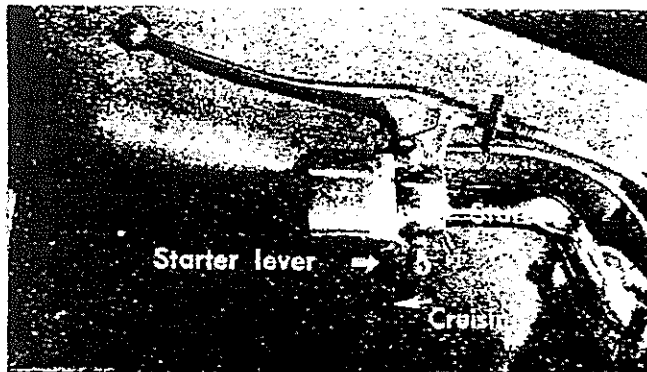

Fig. 2
- (2) Set the starter lever to starting position as shown in Fig. 2.